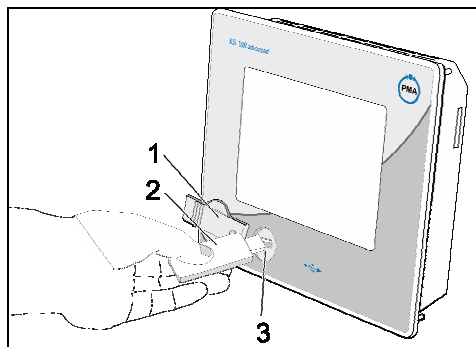

Fig. 16: Using the USB stick
3. **Insert the USB stick:** Carefully lift the cover of the USB connection (Fig. 16/1) on the front of the device and turn it to the side. Now insert the USB stick (Fig. 16/2) in the connection (Fig. 16/3).